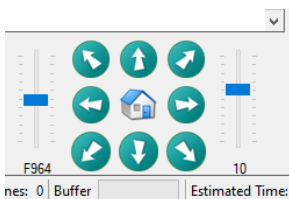

Figure 10.1
10.1. By clicking the direction button (figure 10.1), move the X\Y axis and position the laser device to the appropriate position of the object to be engraved.